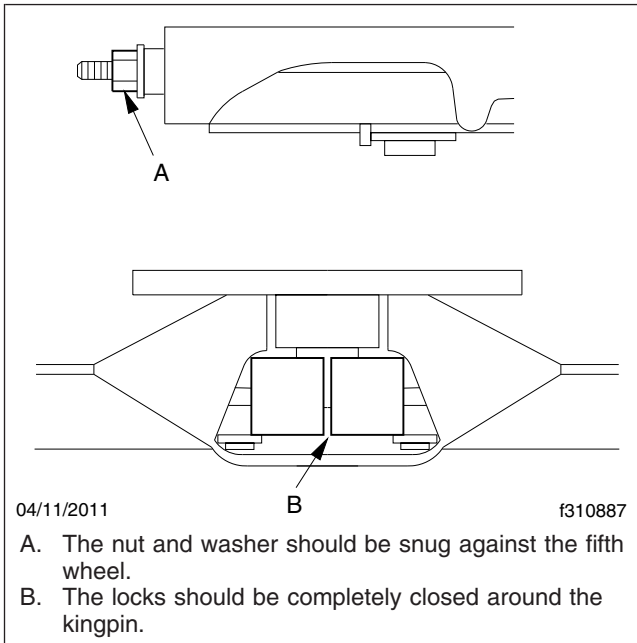

Fig. 4, Holland Fifth Wheel Properly Closed
- Using a Holland Kingpin Lock Tester (Holland tool number TF-TLN-5001, available through the PDCs as HLD TFTLN5001), check the operation of the locking mechanism by opening and closing the locks. See Fig. 4.